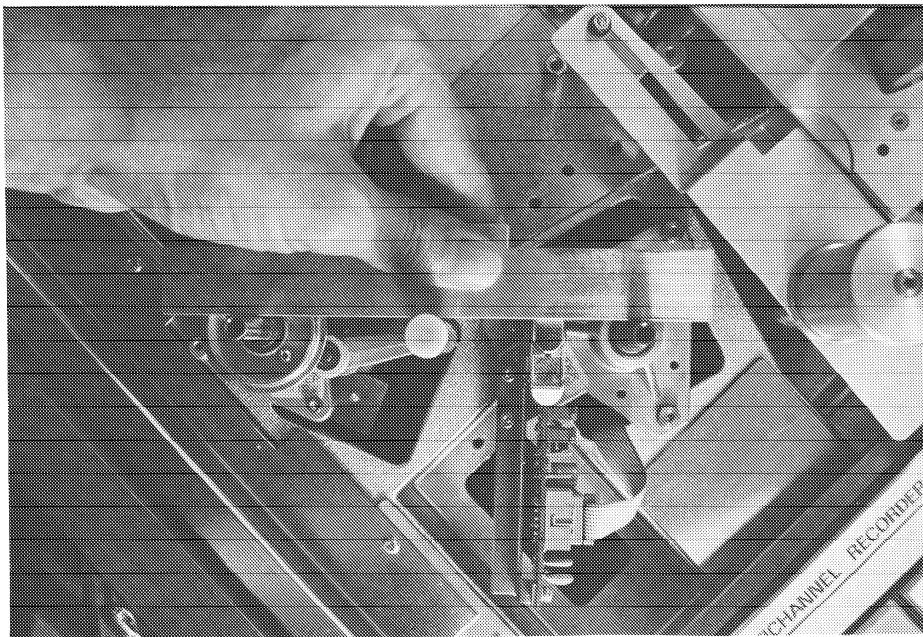

Fig. 3
- Insert gauge (10.010.001.34) for adjusting the tape tension sensors according to Fig. 3, adjust with R7 (Offset-Adjust) to a voltage of 0.400 V +/- 20mV.